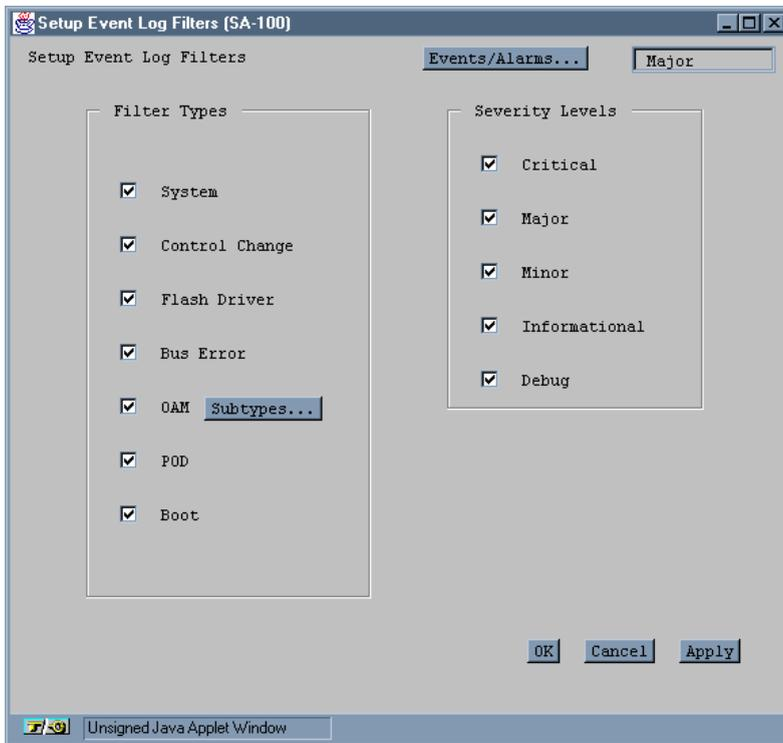

Figure 7-4. Setup Event Log Filters Window
1. Choose the Set Event Filters button from the Filter Management frame of the Event Management window. The Setup Event Log Filters window appears (see Figure 7-4).